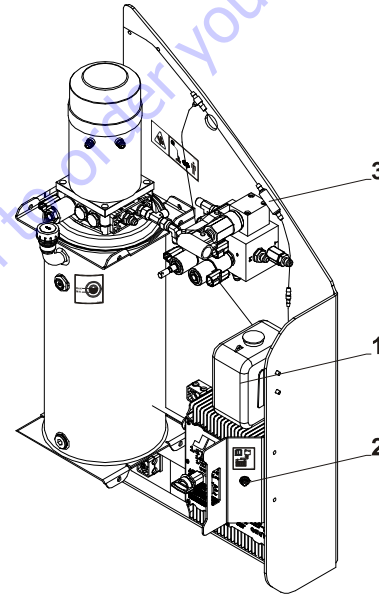

Figure 5-6. Adding Water to Batteries
- Disconnect and clean the **filter (3)** (See Figure 5-6.) by reversing the water flow from the normal direction.